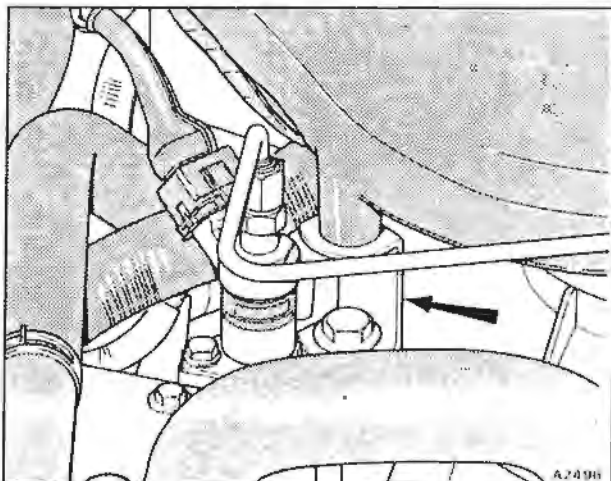

Fig. J3-4 Removal of the air intake elbow
3. Unscrew the two setscrews securing the intake elbow to the mixture control unit (see fig. J3-4).